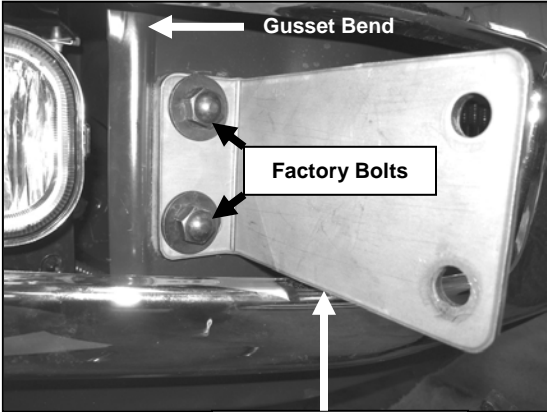

Figure 1
- Place Mounting Bracket onto vehicle and line it up against the gusset bend on the frame. Leave about 1/8" clearance between bottom of Mounting Bracket and bumper. Secure Mounting Bracket to vehicle using the factory bolts (Figure 1). Tighten these bolts at this time.